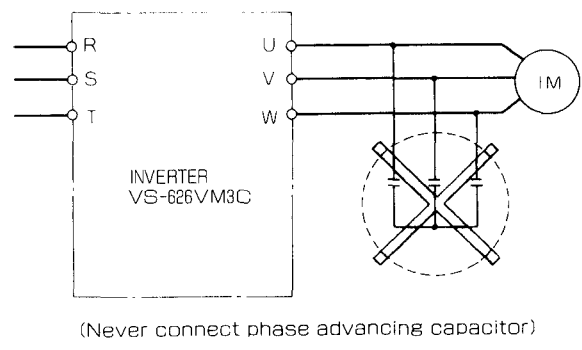

Fig. 3.11 Removal of Phase Advancing Capacitor
(9) When a ground fault interrupter or leak relay is used, it must be well balanced and placed in the power supply line as shown in Fig. 3.11. Since output from the controller contains a high-frequency component, zero-phase current may flow through the voltage-to-ground capacitance of the inverter-motor cable (C1) or the voltage-to-ground capacitance of the motor (C2), improperly activating the ground fault interrupter. To avoid this, observe the following: